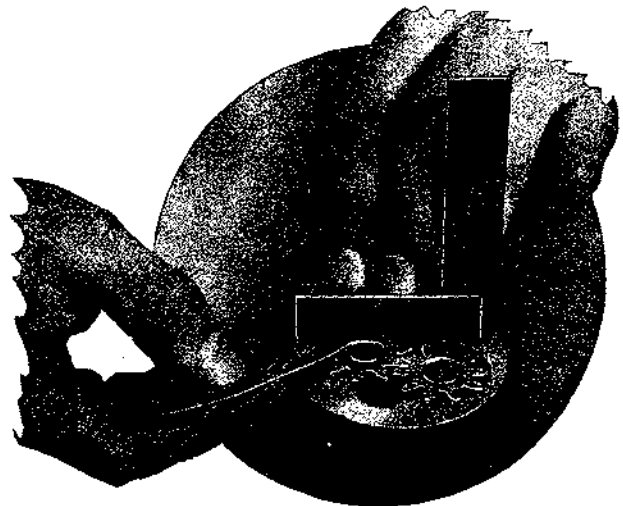

Fig. AAA.4.
2. Check the end float on the gears by placing a straight-edge across the face of the pump body, and measuring the clearances with feelers, as shown in the illustration (Fig. AAA.4). This should not be more than .003 in. (.08 mm.).